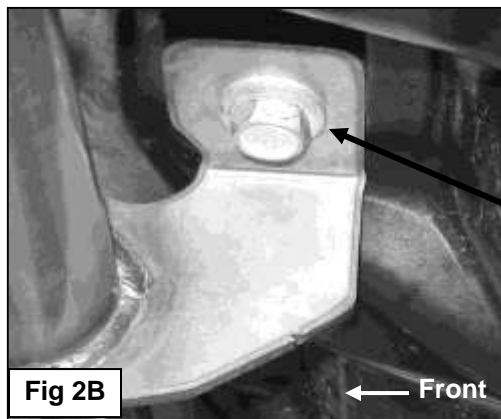

Fig 2B
- b. Line up the holes in the tabs on the Center Bracket with the (3) factory holes in the skid plate, **(Figure 2A)**. **NOTE:** The Center Bracket will bolt over the factory steel skid plate, **(Figure 2B)**. Hang the Center Bracket from the vehicle by replacing the (3) factory hex bolts with the included (3) 10mm x 70mm Hex Bolts, (3) 10mm Lock Washers, and (3) 10mm Flat Washers.